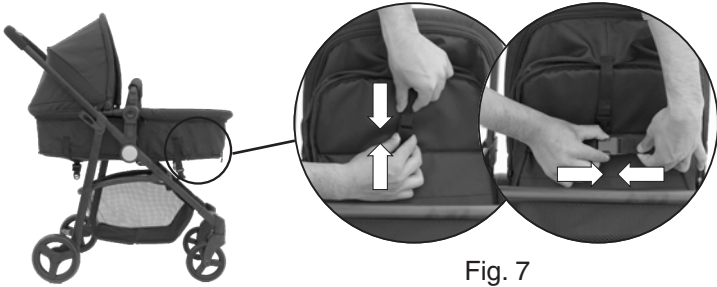

Fig. 7
- If in **carriage mode** make sure to unbuckle straps before continuing (Fig. 7).